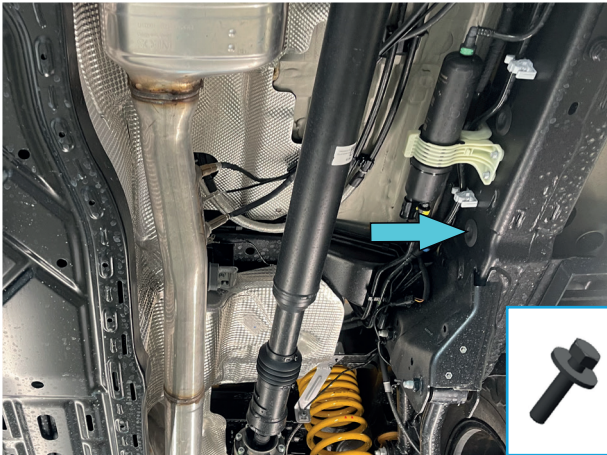

Fig. 5
5. Remove plug, install insert nut M10 (item F) into hole shown in fig.5.